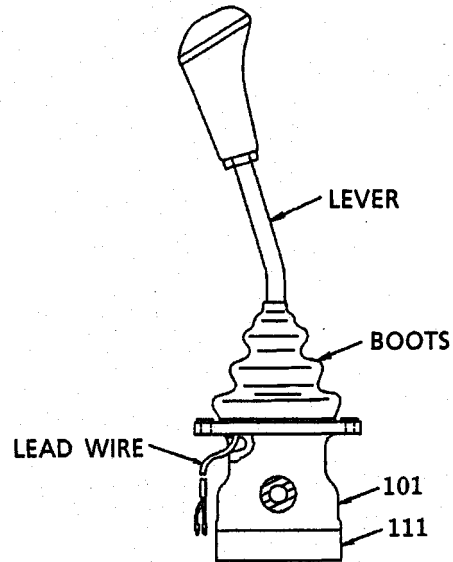

Fig. 7 Removing lever
- 1) Remove the lever assy, boots and lead wires from valve body (101). (See Fig. 7.)
- 3) Put a wrench in the width across flats of the plate (302) and turn the disk counterclockwise till joint (301) gets loosened.